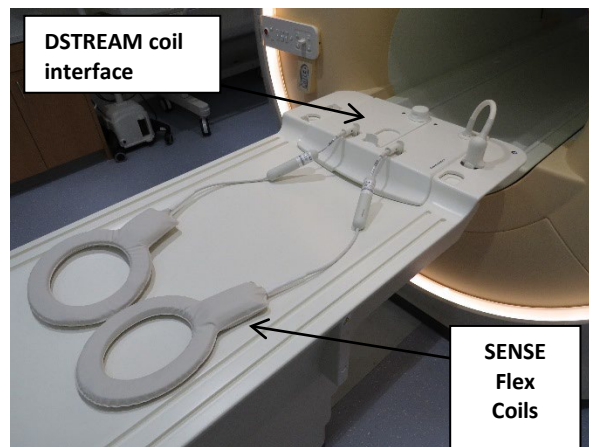

Figure 8.45: Philips Ingenia MR Table with “DStream” coil interface
1. The Philips “DStream” coil connection interface must be inserted into the head end of the MR and connected in order to use the Philips SENSE Flex coils (See Figure 8.45)